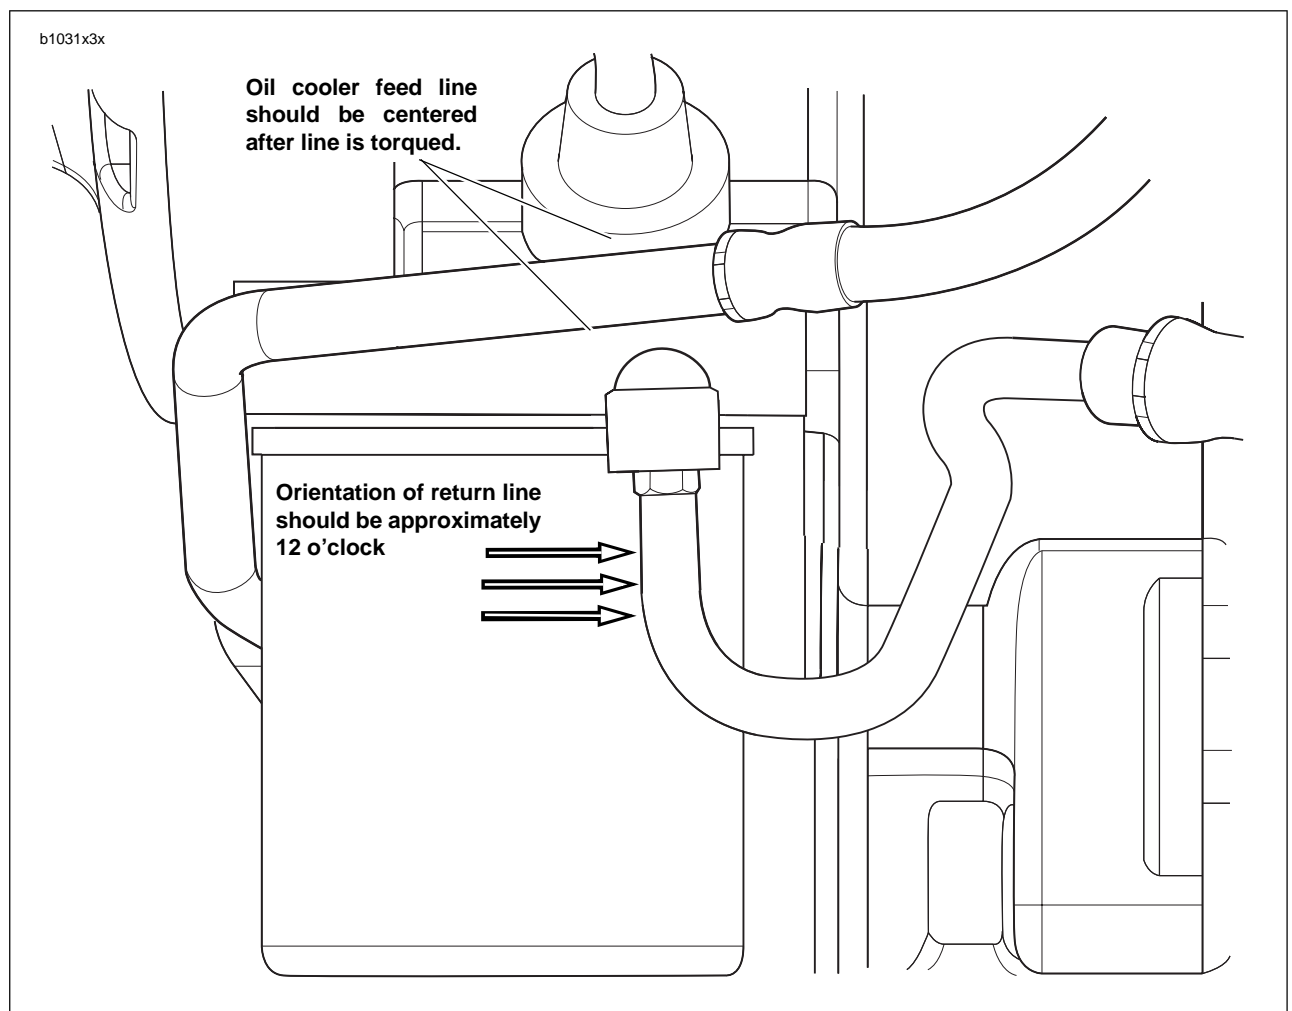

Figure 3-53. Oil Cooler Feed and Return Oil Lines Location and Orientation
29. See Figure 3-53. Install oil cooler oil feed line first at crankcase and tighten to 22-24 ft-lbs (29.8-32.5 Nm). Lightly coat the threads of the oil cooler fitting with clean H-D 20W50 engine oil. Wipe off any excess oil. Tighten feed oil line to 19-21 ft-lbs (25.8-28.5 Nm) at oil cooler making sure to center the oil line between the oil sending switch and the return oil line fitting on the crankcase.
See Figure 3-53. The orientation of the oil cooler return oil line where it enters the crankcase should be at approximately 5 o'clock to allow for proper alignment and clearance of other components on the vehicle.